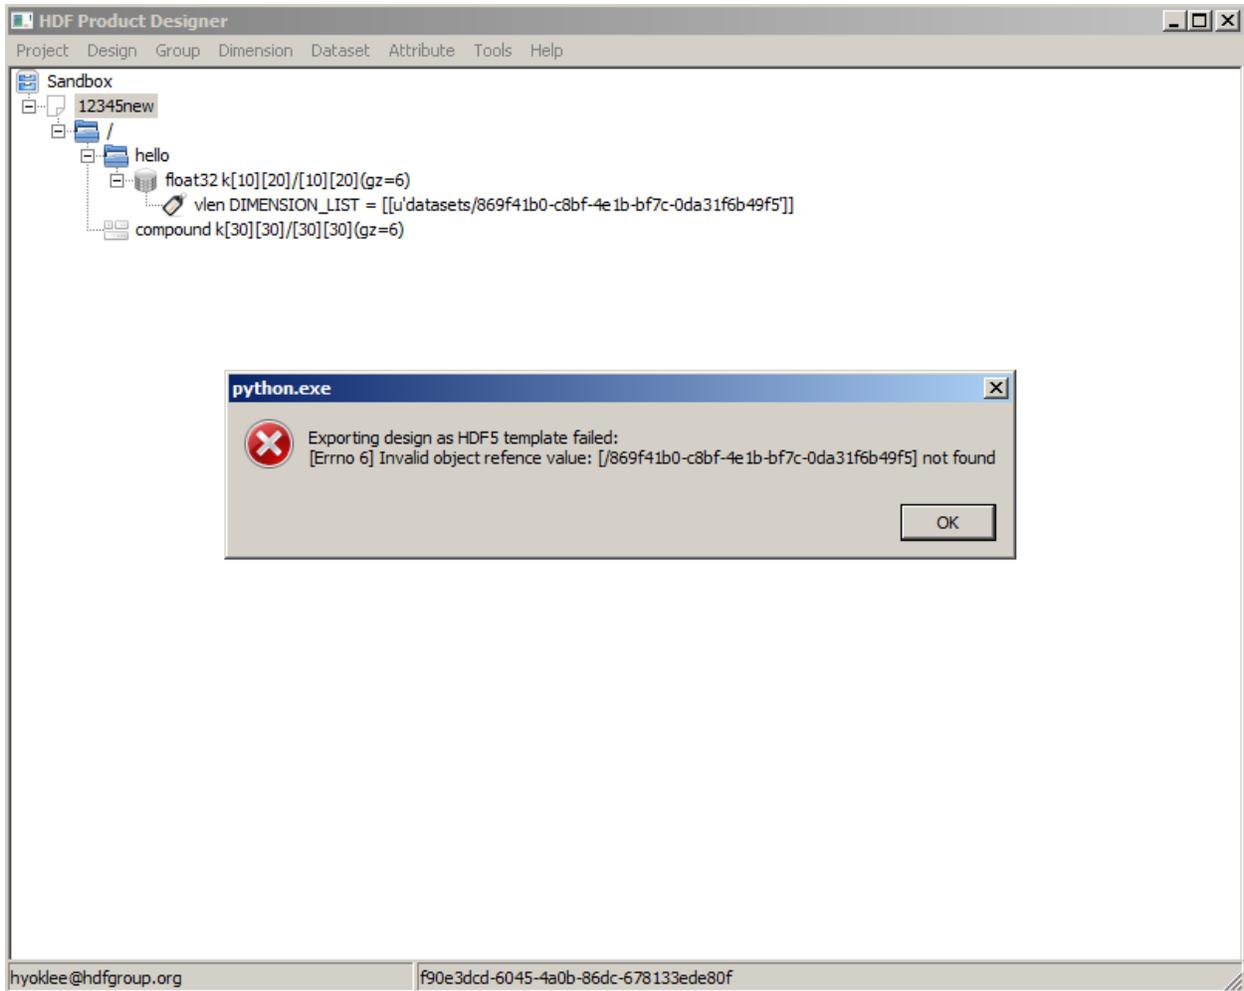

Fig. 5.20: HPD Desktop dialog message box for download failure
5. If exporting fails, the pop-up window will display the error message (Fig. 5.20).
3. If exporting fails, the pop-up window will display the error message (Fig. 5.20).